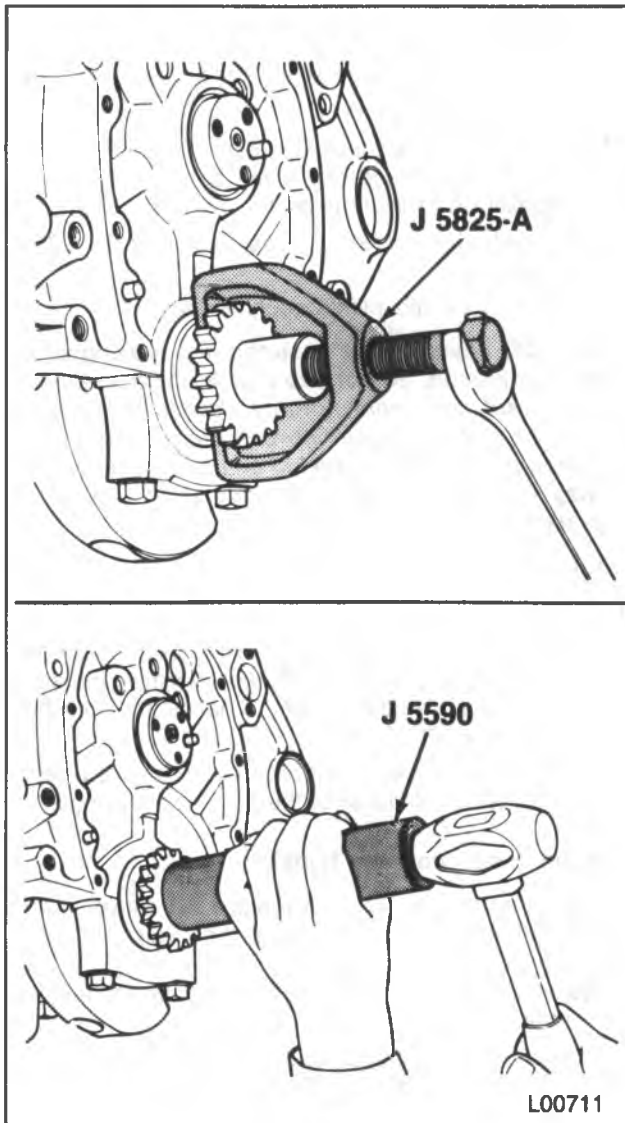

Figure 25 — Replacing the Crankshaft Sprocket
18. Crankshaft sprocket (if required). Use J 5825-A (Figure 25).
4. Crankshaft sprocket (if removed). Use J 5590 (figure 25). Make sure the timing mark faces outside.